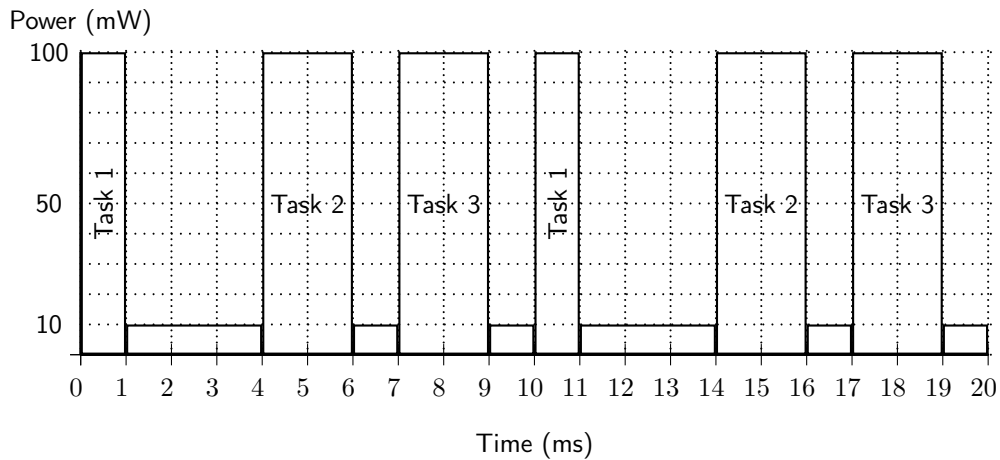

Figure 3: Energy efficient schedule using a workload-conserving scheduler.
- (a) (4 points) Assume zero transition energy (i.e.  $E_1 = E_2 = 0$ ) and instantaneous mode transitions (i.e.  $t_1 = t_2 = 0$ ). Plot in Figure 3 a schedule that includes the power consumption over time, as well as tasks that are executing, using a workload-conserving scheduler that minimizes the average power. A workload-conserving scheduler always executes when a ready task is available.